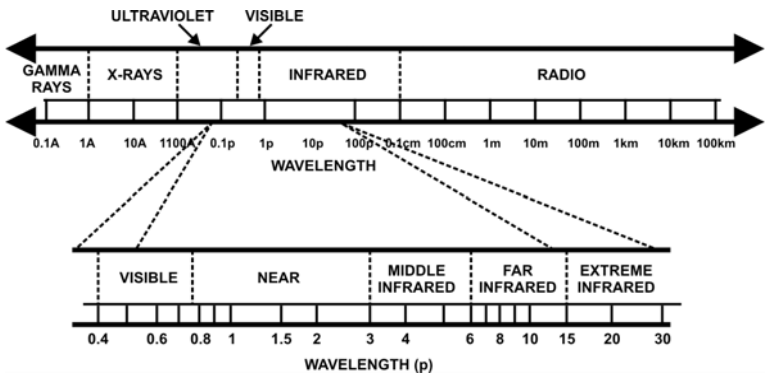

Figure 3-9: The Electromagnetic Spectrum
11. **The Electromagnetic Spectrum.** Infrared (IR) energy waves, first noted by Sir William Herschel in 1800, are part of the electromagnetic energy spectrum that exists between visible waves and radio waves (see Figure 3-9). Infrared energy is invisible energy emitted by heated objects due to the vibration of molecules in that object. This phenomenon is also known as *thermal radiance*.
13. As illustrated in Figure 3-9, the infrared part of the spectrum is divided into the near, middle, far and extreme bands. These bands have nothing to do with range or distance, but refer to parts of the electromagnetic spectrum. Military infrared sights are sensitive to energy from the near, middle and far bands.